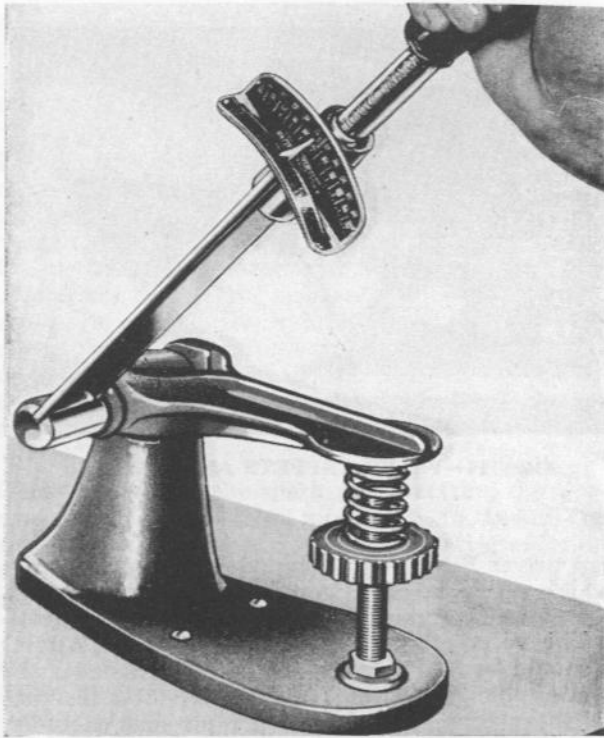

FIG. 10—SPRING TESTING FIXTURE
12. Remove the valves and place them in a valve carrying board so they can be identified as to the cylinder from which they are removed. Remove the valve springs. The springs should be washed thoroughly with solvent and examined for damage or corrosion, due to acid etching, which will develop into surface cracks and cause spring failure. The overall free length of each spring should be measured and spring pressure checked on a spring testing fixture as shown in Fig. 10. The free length of the
When using the recommended spring checking fixture C-647 shown in Fig. 10, it is necessary to convert the torque wrench reading which is in foot pounds to the static pound pressure of the specifications above. This is accomplished by multiplying the torque wrench reading by two. Thus should the torque wrench reading be 50 foot-pounds the static pressure of the spring will be 100 lbs. Any spring which does not fall within the above specifications or is distorted should be replaced.